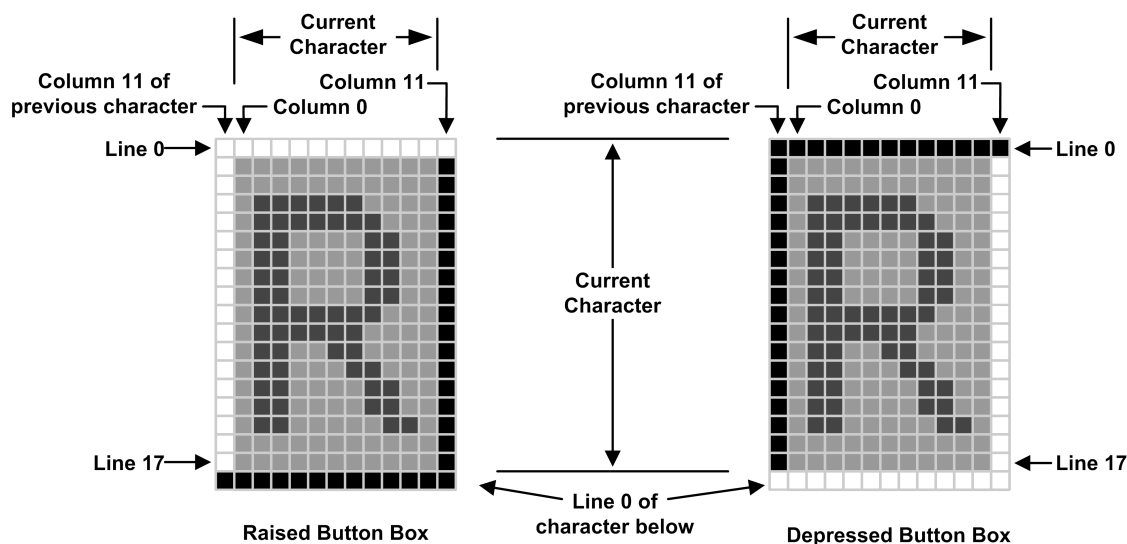
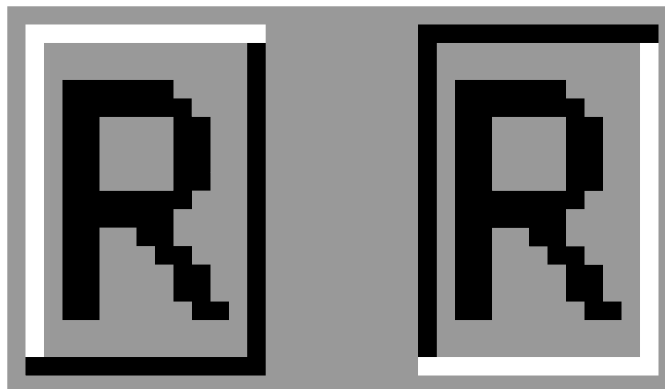

Figure 18. Button Box Detail
Figure 19. On-Screen Effect of Button Boxes
1. **Button Boxes**—The OSD generator examines the character string being displayed and if the “button box” attributes have been set in the Enhanced feature byte, then a box creator selectively substitutes the character pixels in either or both the top and left most pixel line or column with a button box pixel. The shade of the button box pixel depends upon whether a “depressed” or “raised” box is required, and can be programmed through the I²C compatible interface. The raised pixel color (“highlight”) is defined by the value in the color palette register, EF1 (0x8405 - 0x8406), which is normally set to white. The depressed pixel (“lowlight”) color by the value in the color palette register, EF2 (0x8407 - 0x8408), which is normally set to gray. See Figure 18 for detail and Figure 19 for the on-screen effect.
The microcontroller interfaces to the LM1247 preamp using the I²C compatible interface. The protocol of the interface begins with a Start Pulse followed by a byte comprised of a seven bit Slave Device Address and a Read/Write bit. Since the first byte is composed of both the address and the read/write bit, the address of the LM1247 for writing is 0xBA (10111010b) and the address for reading is 0xBB (10111011b). The development software provided by TI will automatically take care of the difference between the read and write addresses if the target address under the communications tab is set to 0xBA. Figure 18 and Figure 19 show a write and read sequence on the I²C compatible interface.